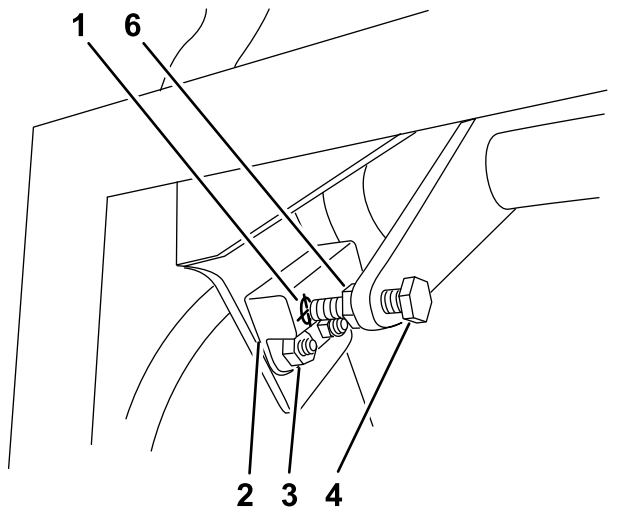

Figure 56
1. Ensure that the bolt attached to the motion-control lever aligns with the proximity switch target (Figure 56).
2. If needed, loosen the bolts and adjust the proximity switch until the target aligns with the bolt attached to the motion-control lever (Figure 56).
3. Check the distance of the bolt to the proximity switch; it needs to be between 0.51 to 1.02 mm (0.02 to 0.04 inches) as shown in Figure 56.
5. Tighten the jam nut after adjusting the bolt (Figure 56).